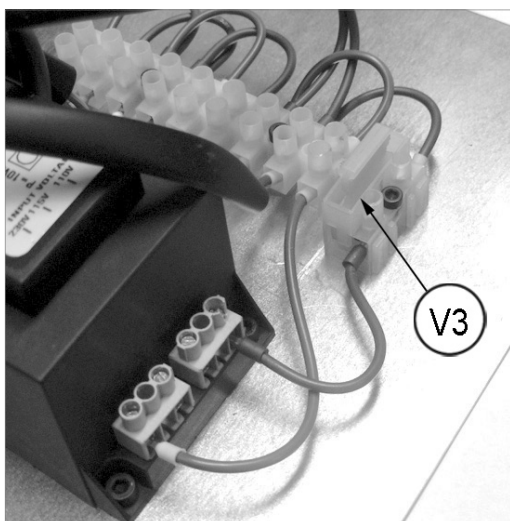
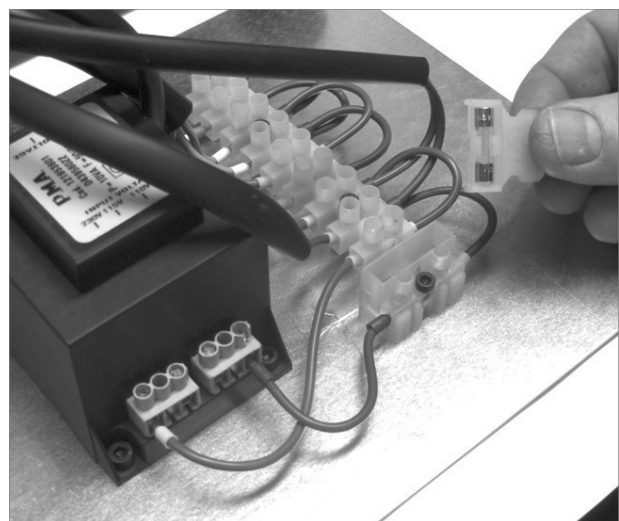

Fig. 47
Fig. 48
- 3) Take the fuse out of its seat (V3) (Fig. 47 and Fig. 48).